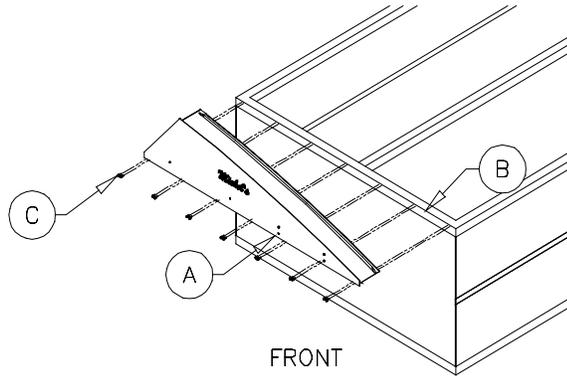

Figure 1
(See Figure 1)
Procedure: Center the front hood on the front wall of the box with the lower 1 inch flange (A) positioned flush against the outside front edge of the box. Using a 3/16" drill bit, drill 14 holes through the 1 inch flange and into the box wall (B) placing 2 holes at approximately every 15 inches (see Figure 1). Secure the front hood using the 1/4"x1" lag screws provided. Drill through the horizontal portion on each side of the front hood and secure using 1/4"x1" lag screws (C).